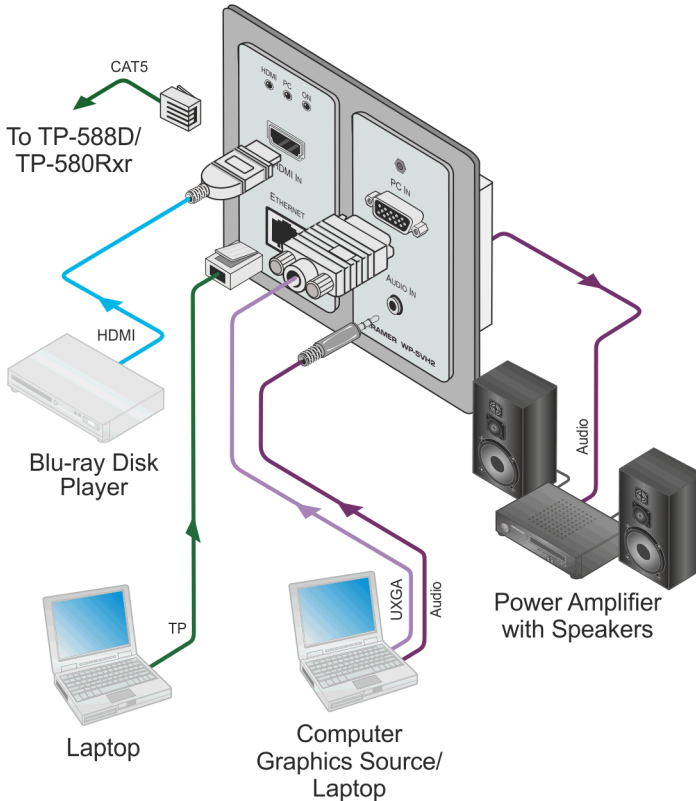

Figure 3: Connecting the WP-5VH2 Wall Plate
To connect the WP-5VH2 as illustrated in Figure 3:
8. If the device is not connected to a PoE provider, connect the power adapter to the **WP-5VH2** and to the mains power, (not shown in Figure 3).